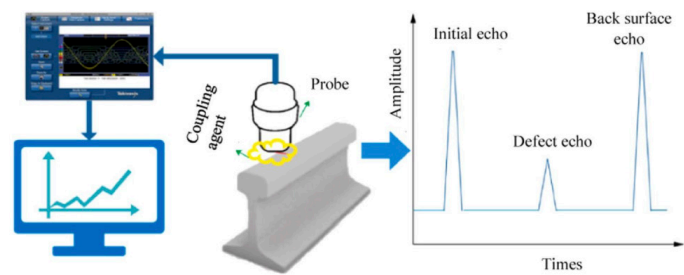

Fig. 4. Basic principle of UT.
Currently, Ultrasonic Testing (UT) technology for rail defects is in constant development and improvement, featuring numerous applications in this field [23]. An ultrasonic transducer, pulser/receiver, and display unit are the standard components of the UT system, as shown in Fig. 4. In order to drive the transducer and produce high-frequency ultrasonic energy, the pulser/receiver functions as an electronic device that generates high voltage electrical pulses. The most often utilized ultrasonic frequency range for rail fault detection is 0.2–25 MHz, with a range of 0.5–10 MHz. When this acoustic energy is added to the substance, it passes through it as a wave. A portion of the energy reflects back to the transducer from the material's surface if there are flaws present along the wave path. The electrical signal produced by the transducer from the reflected wave signal is shown on a screen for study [24].